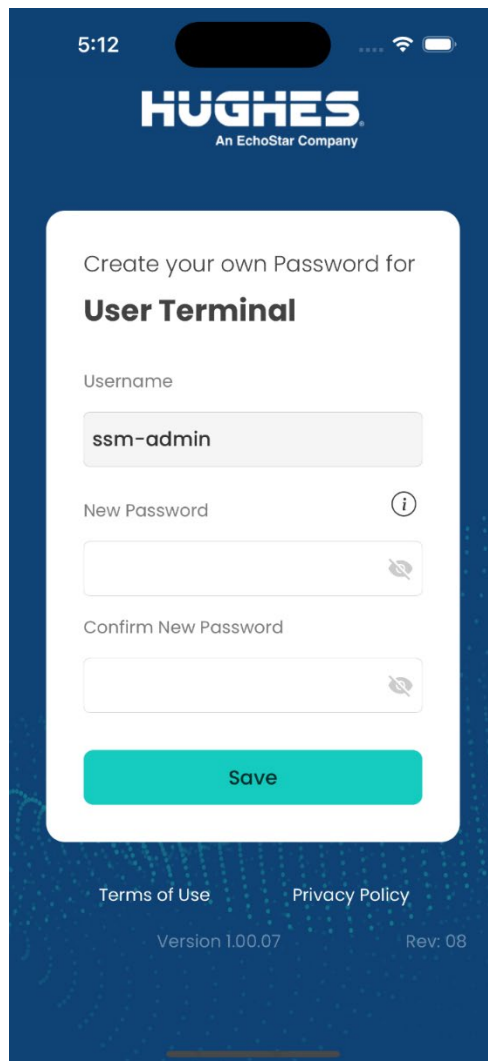

Figure 87: Create user terminal local management password
4. The password for the user terminal's Local User Interface (LUI) and Hughes LEO app login are the same. This password will not be set in the Hughes factory. For a first time install of a user terminal, you will be prompted to set the password when you click **Start Install**. When the screen shown in Figure 87 is displayed, enter the password and confirm the password for the user terminal local management and click **Save** to commit the password to be stored on the user terminal.